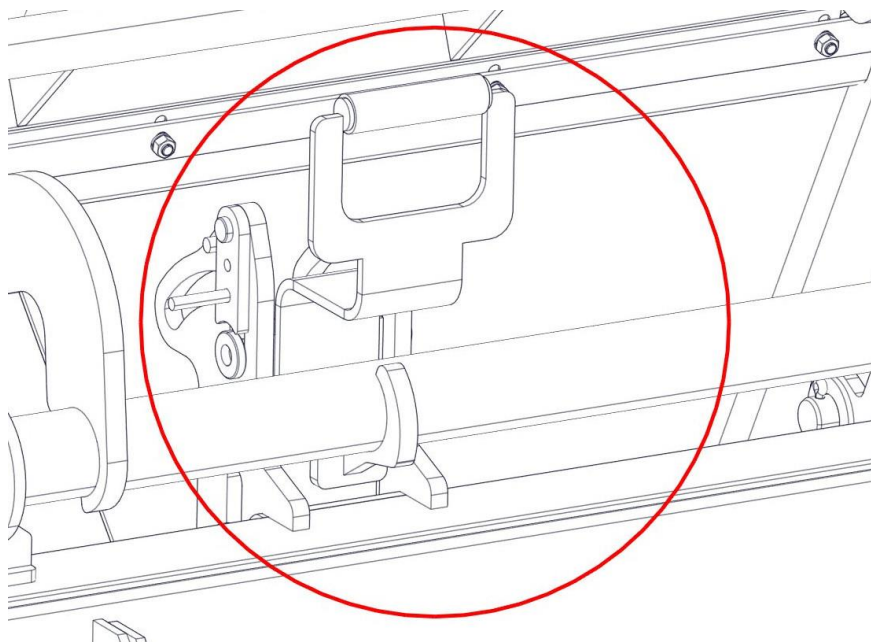

Fig. 24
- put the handle in the closed position – Fig. 24
- turn the lock in the closed position – Fig. 24
- The locking system of the flap mechanism must be in the locked position - Fig 24